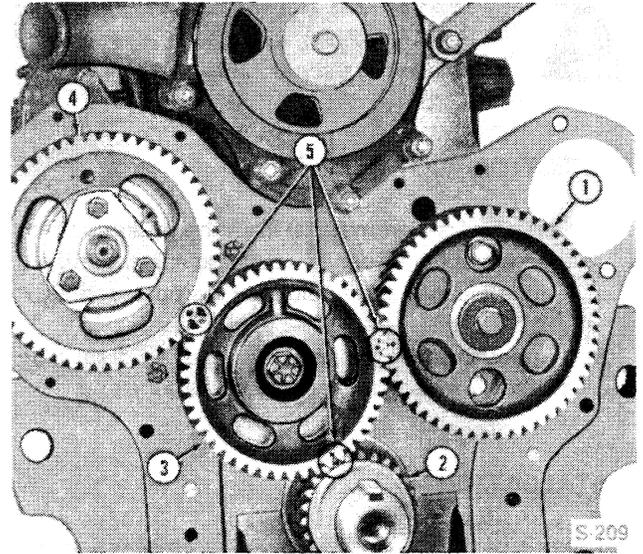

Figure 25
NOTE: All Ford engines with the rotary type fuel injection pump have a common fuel injection pump drive gear. This gear has a timing mark, Figure 25. When installing the pump drive gear, be sure the timing mark aligns with the camshaft drive gear timing mark.
3. Position No. 1 piston at top dead center and install the camshaft drive gear and adapter with the timing marks aligned with those of the other gears, as shown Figure 25.